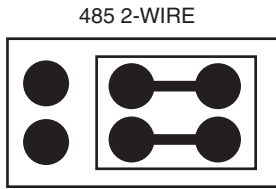

Fig. 12 — 485 2-Wire Jumper
7. Verify the jumper is set on the right 2 pins. See Fig. 12.